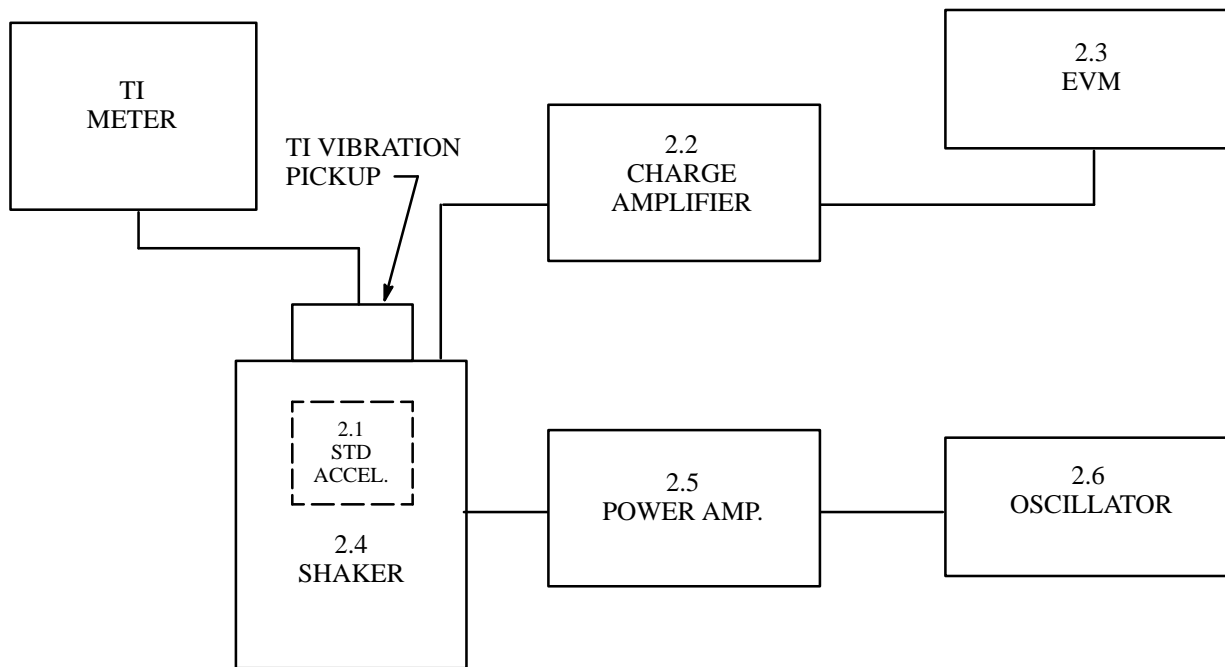

Figure 1. Test Configuration
4.1.1.1 Connect the equipment as shown in Figure 1.
4.1.2.1 Connect the equipment as shown in Figure 1.
4.2.1.1 With the test configuration connected as shown in Figure 1, set the TI Function switch to VEL-INS/SEC and the Range switch to 1, adjust the oscillator frequency controls to each of the frequencies listed below. At each frequency, adjust the oscillator output amplitude to obtain each of the TI meter indications listed.
4.3.1.1 With the test configuration connected as shown in Figure 1, set the TI FILTER OUT-FILTER IN switch to FILTER OUT and the Range switch to 1, adjust the oscillator frequency controls to each of the frequencies listed below. At each frequency, adjust the oscillator output amplitude controls to obtain each of the TI meter indications listed.
4.4.2 Connect the equipment as shown in Figure 1.